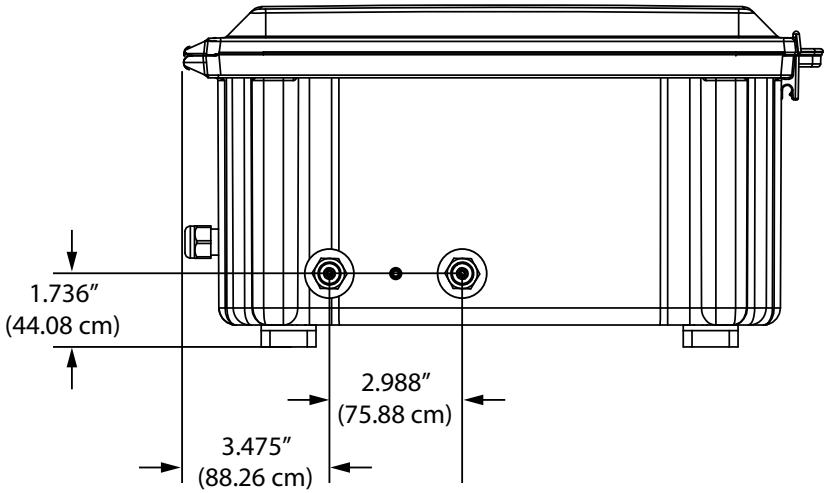

Figure 4: 3017M plumbing connections, bottom view
6. Attach the 1/2" ID drain tube to the barb fitting on the bottom of the analyzer. Refer to **Figure 4**.